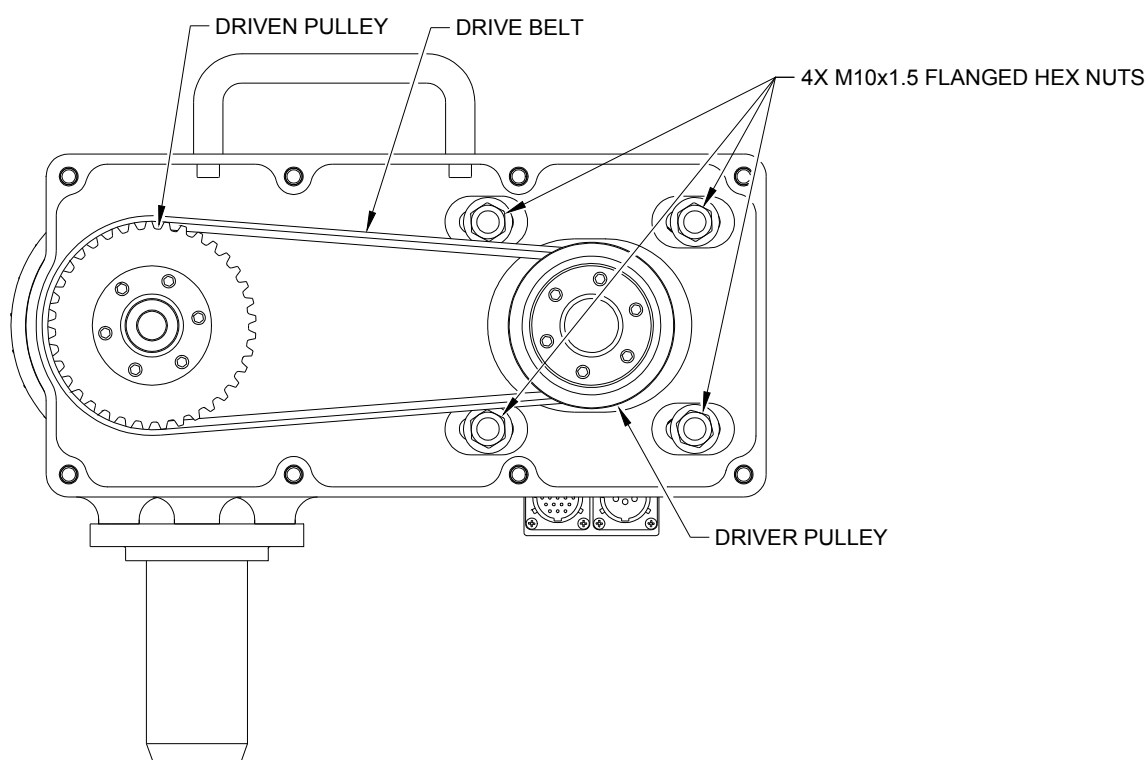

Figure 13. Replacing the Drive Belt
1. Remove the eight (8) M6x1 Socket Head Cap Screws securing the Belt Cover to provide access to the Drive Belt.
2. Loosen the (4) four M10x1.5 Flanged Hex Nuts, shown in Figure 13, approximately $\frac{1}{2}$ turn. This will allow the servo motor to move, but constrain the driver pulley to remain essentially parallel to the driven pulley during tensioning.